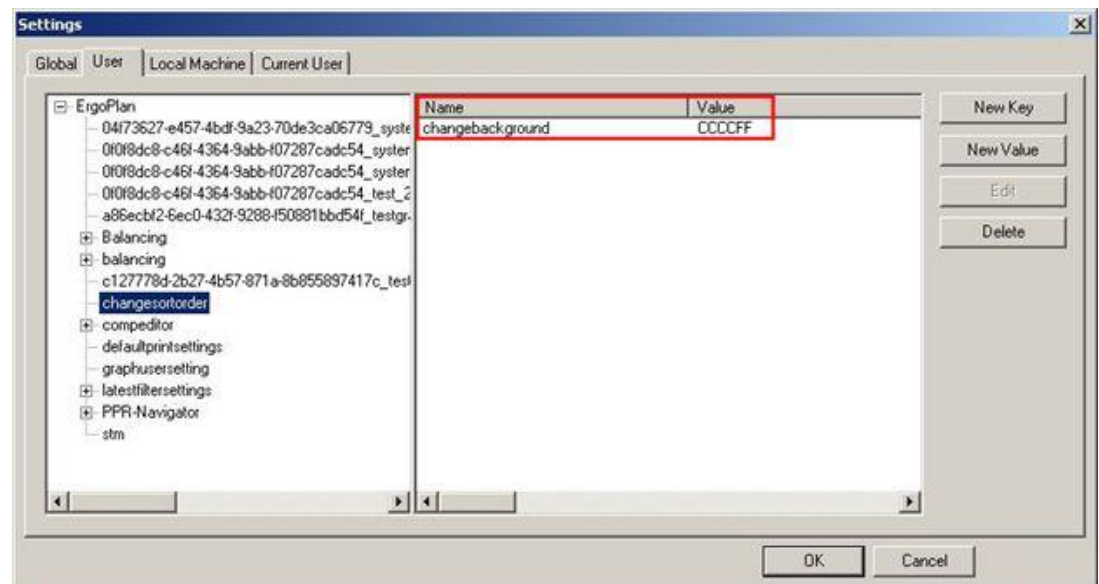

Figure 76: Activate Color Code for Background
- 2) The colored background corresponds to the adjusted color code. *Please refer to the Figure 76.*